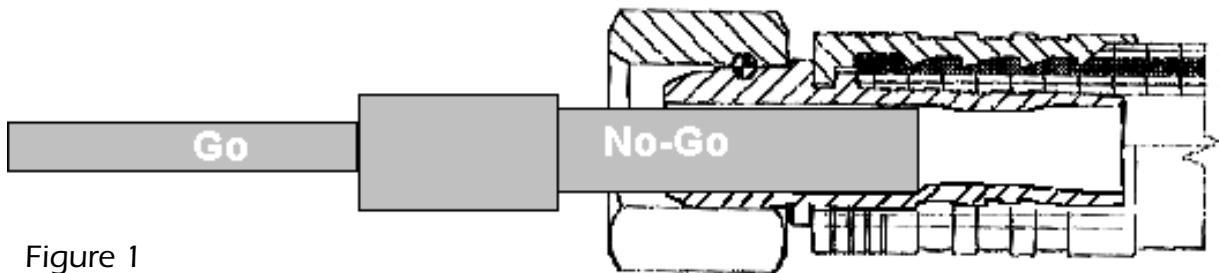

Figure 1
- 3.** Insert the no-go end of the mandrel into an insert tail. The mandrel should stop halfway down the tail. This indicates the minimum collapse has been reached (**Figure 1**).